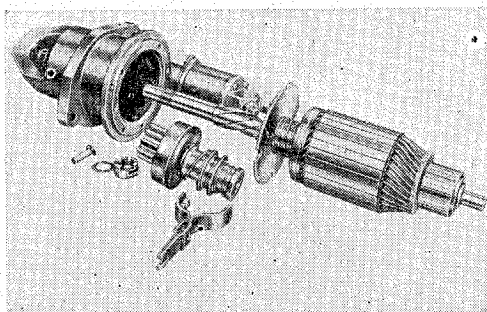

Fig. 90.
14. Remove the armature from the yoke, commutator end first (see Fig. 90).